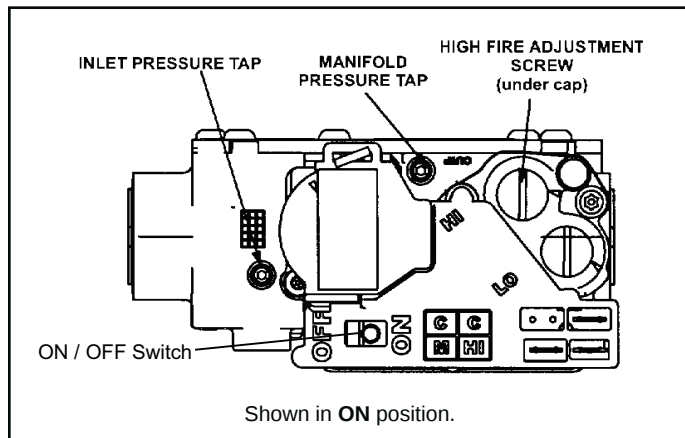
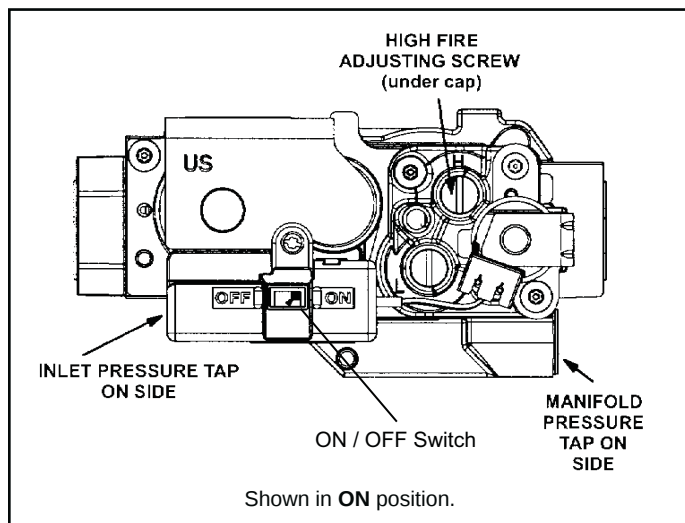

Figure 31. White Rodgers Gas Valve
Figure 32. Honeywell Gas Valve
See Figure 31 and Figure 32
6. Move gas valve switch to OFF position. Do not force. See Figure 31 and Figure 32.
7. Wait five (5) minutes to clear out any gas. If you then smell gas, **STOP!** Immediately call your gas supplier from a neighbor's phone. Follow the gas supplier's instructions. If you do not smell gas go to next step.
8. Move gas valve switch to ON position. Do not force. See Figure 31 and Figure 32.
4. Move gas valve switch to OFF position. Do not force. See Figure 31 and Figure 32.
1. Connect test gauge to manifold pressure tap (Figure 31 and Figure 32) on gas valve.
4. If necessary, make adjustments. Figure 31 and Figure 32 show the location of high fire adjustment screw.